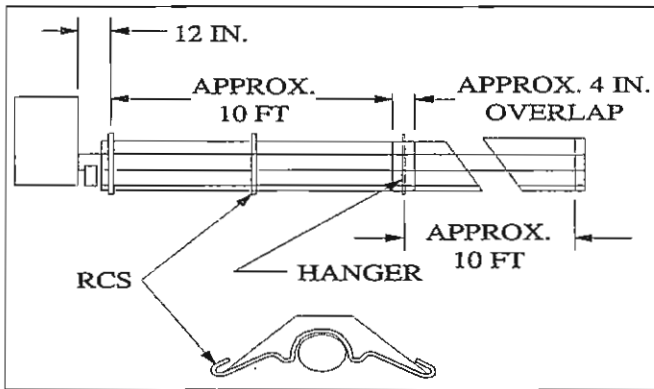
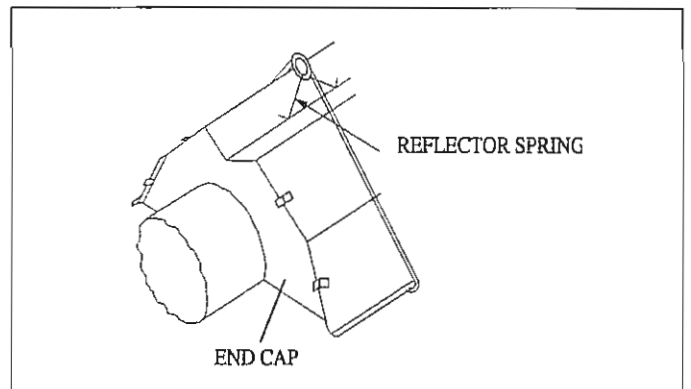

Figure 1-11
Figure 1-12
1. Install reflector center supports (RCS) as shown in Figure 1-11.
2. Slide reflector through wire hangers and adjust the reflector positioning spring in the V-groove on top of the reflector as shown in Figure 1-12. Overlap reflectors 4 in. for support (See Figure 1-11).
4. Install reflector end caps at exposed ends of the reflector runs with clips (Figure 1-12).